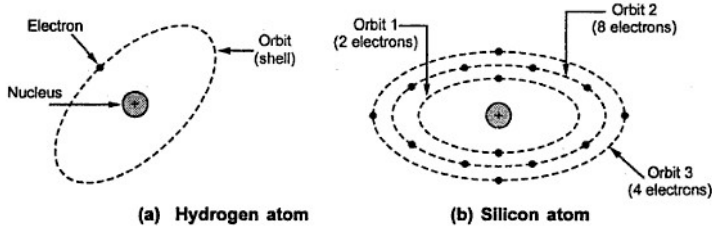

Fig. 1.1
1) **Hydrogen** : This atom consists of one proton and one electron revolving around the nucleus. This is the simplest atom. This is shown in the Fig. 1.1 (a). The dot represents an electron while nucleus is represented by a circle with the positive sign inside it.
2) **Silicon** : This atom consists of 14 electrons. These revolve around the nucleus in three orbits. The first orbit has maximum 2 electrons, the second has maximum 8 electrons and the third orbit has remaining 4 electrons. This is shown in the Fig. 1.1 (b).